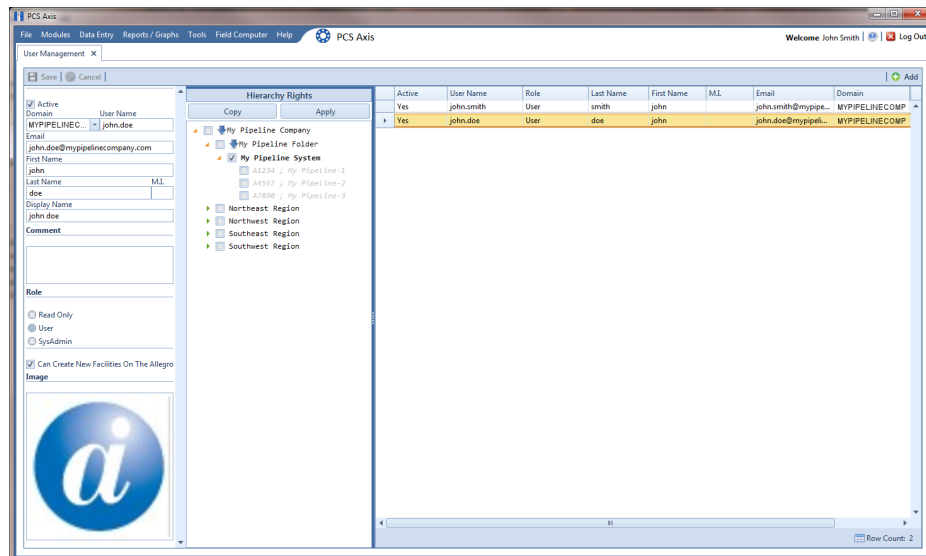

Figure 5-1. Adding a New User
- 1 Click **Tools > User Management > + Add** (Figure 5-1).
- 1 Click **Tools > User Management** (Figure 5-1, page 189).